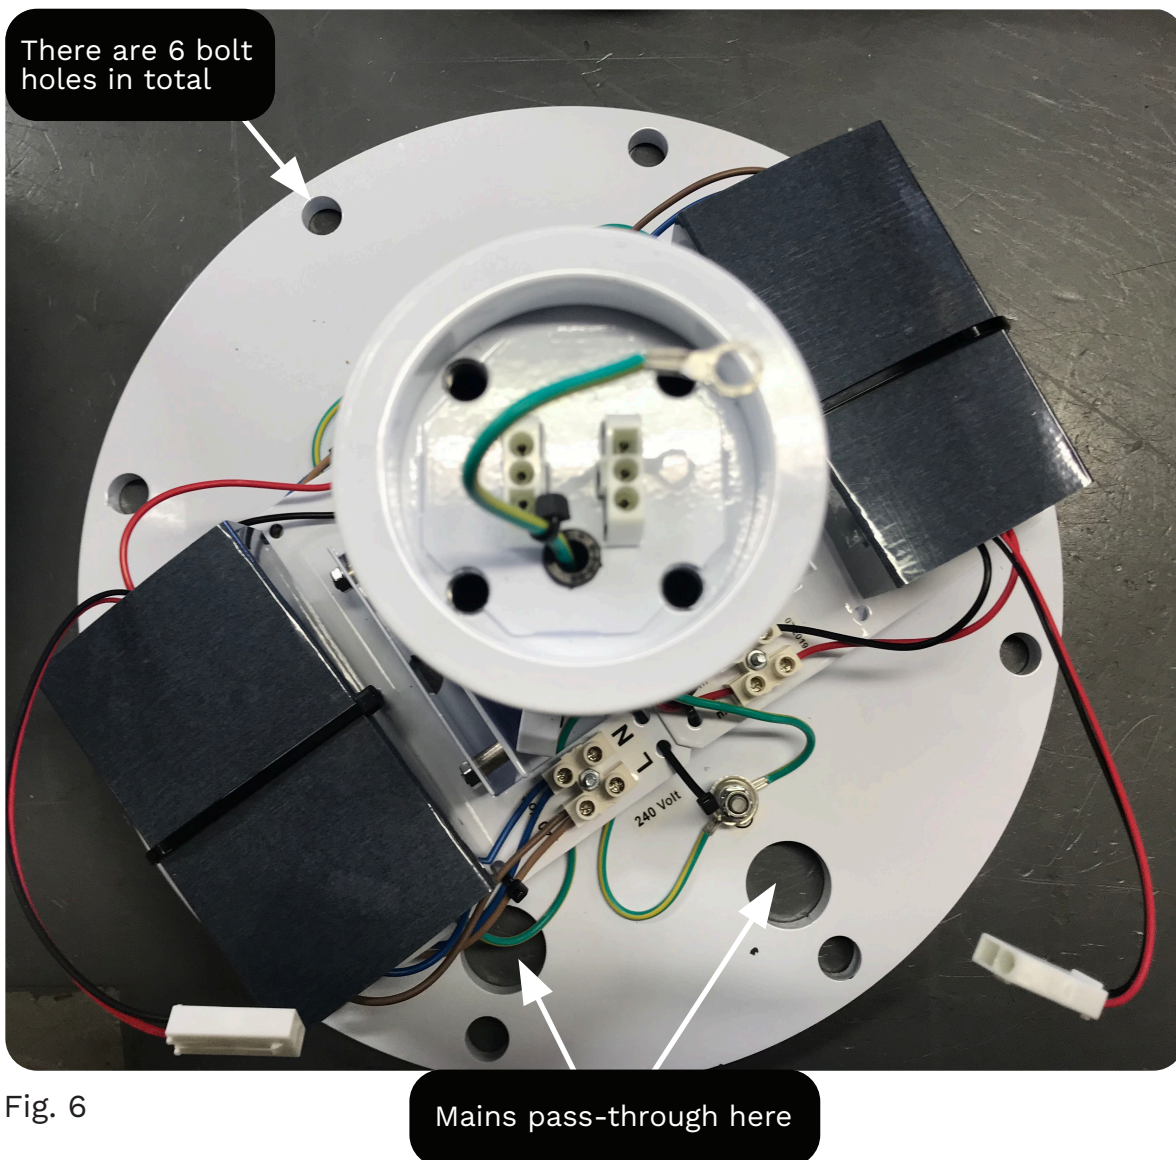

Fig. 6
2. Connect mains power through one of the mains pass-through holes (Fig.6)